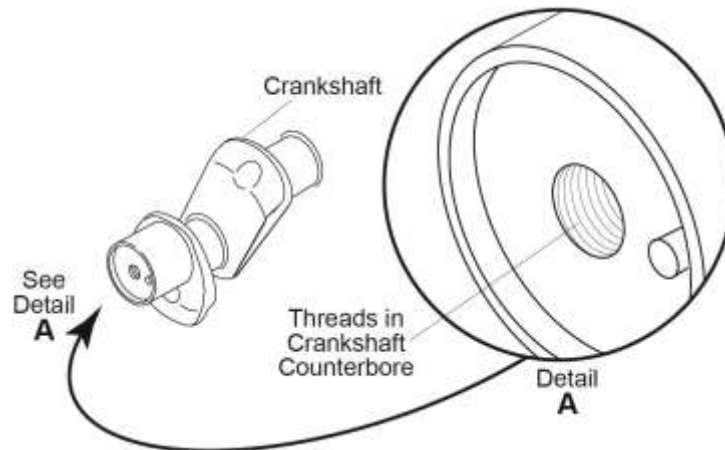

Figure 1
- C. Clean the threads of the crankshaft counterbore (Figure 1) as follows:
- (1) Use the correct sized undamaged bottoming tap for a 5/16-24 thread size.